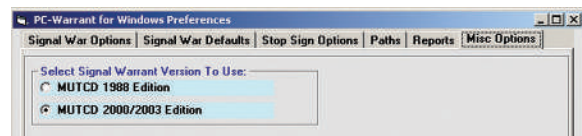

Figure A.9 – MUTCD Mode Setting
2. Select the **Program Options** tab at the top of the screen. This will display a screen similar to the one shown here in Figure A.9. The current MUTCD version will be shown with a filled in circle.